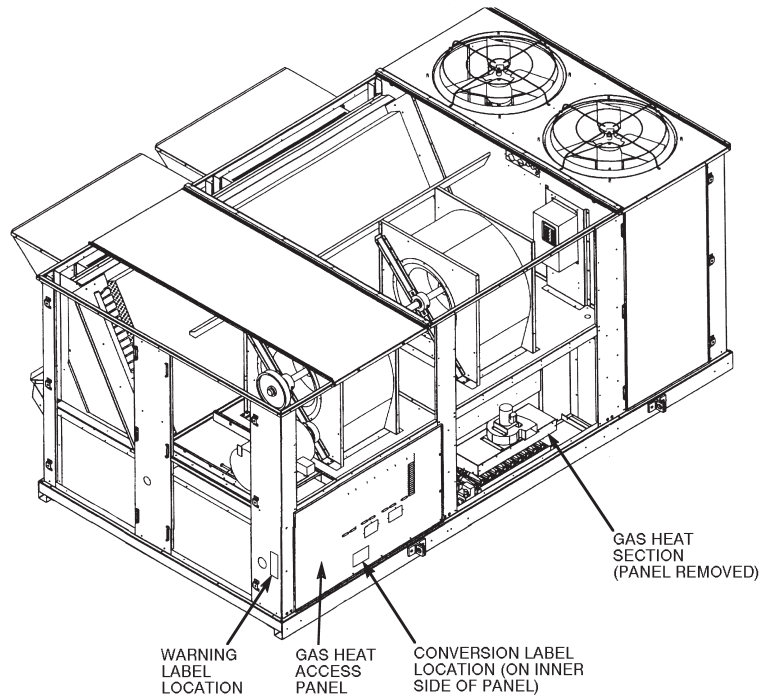

Fig. 51 — Typical Gas Heating Unit (20 Ton Unit Shown)
3. Remove gas heat access panels. See Fig. 51 for typical gas heat layout.